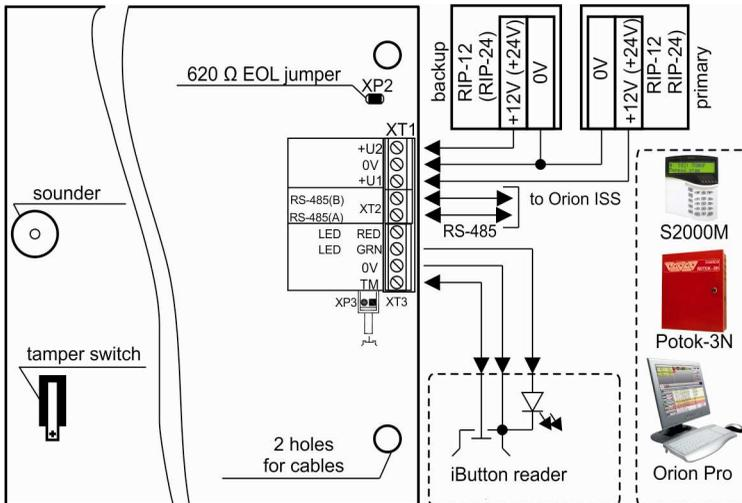

Figure 3. Module's Connection Diagram
2.2.1 Connect wires to the module's terminals as shown in Figure 3.
2.2.5 Unless the module is the last or the first device in the RS-485 interface bus, remove the EOL jumper from the module's PCB (see Figure 3).
2.2.6 Connect the module to an iButton reader as shown in Figure 3.